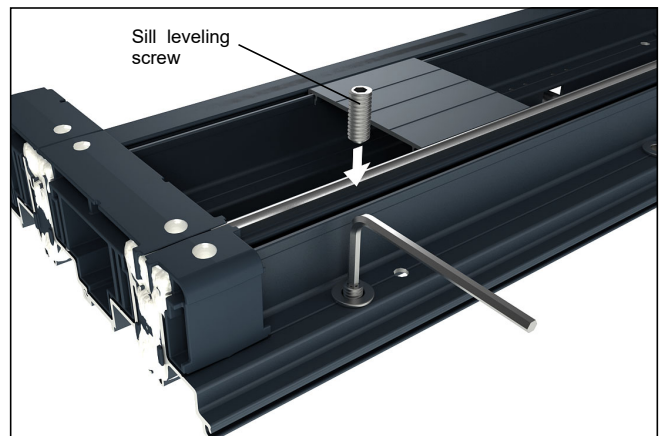

Figure 13
4. Remove the sill from the opening. Install the leveling screws provided into the rivet nuts with a 5/32" allen wrench. See figure 13.